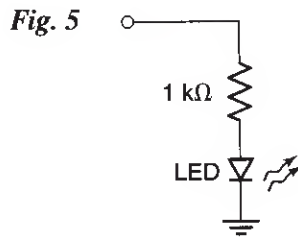

Fig. 6
9. Verify that the function table in Fig. 6 agrees with your observations above. An up-pointing arrow means a transition of the clock from low to high, and Q is the output value following that transition.